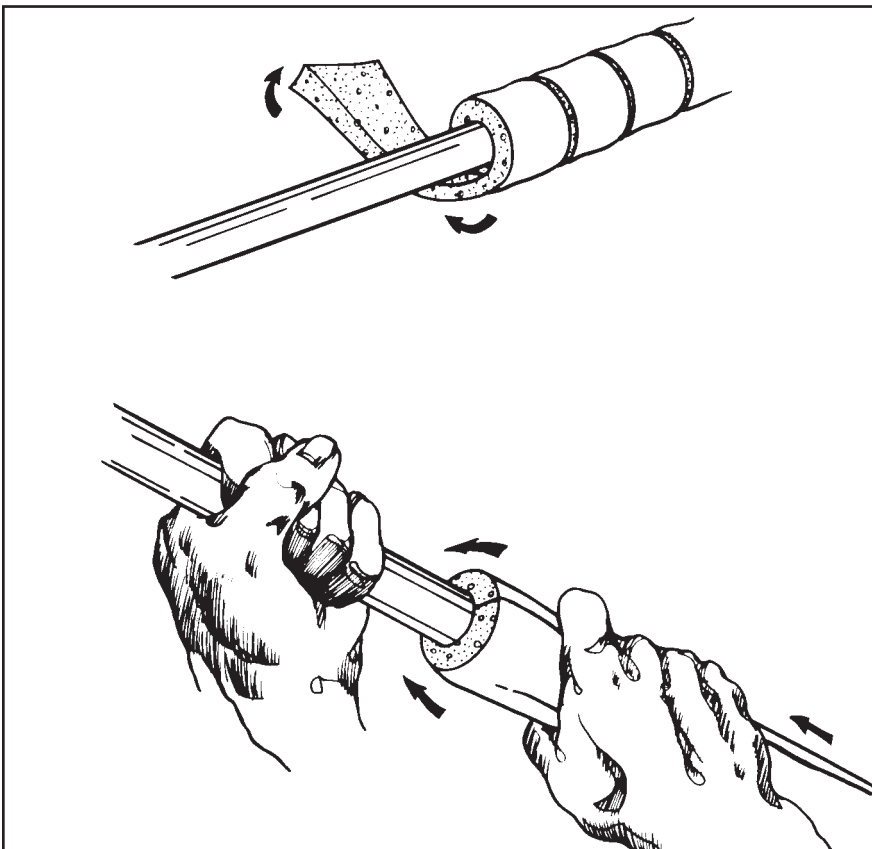

Figure 5
**Pipe insulation.** Water pipes extending vertically from the hot water storage tank are really part of the tank itself. The lighter hot water flows up the pipe, replacing cooler and heavier water. Insulate both pipes with foam or fiberglass from the tank to the heat trap, or to the first horizontal run (Figure 5). Insulation should be kept at least three inches from the draft hood and flue.